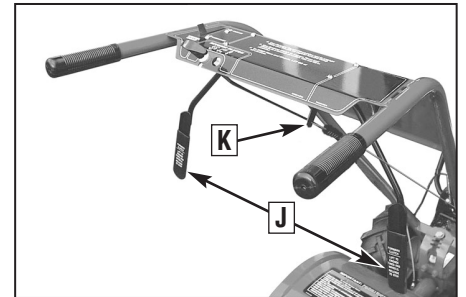

Figure 2-7: Forward Clutch Control levers (J). Forward clutch control linkage (K).
1. Remove any fasteners (rubber bands, tape, etc.) that may secure the Forward Clutch Control levers (J, Figure 2-7) to the handlebar.
2. The forward clutch control cable (with attached spring) is hanging loosely near the right-side wheel. Being careful not to kink or stretch the cable, insert the z-connector (L, Figure 2-8 – end of the spring) into the hole at the end of the forward clutch control linkage (K, Figure 2-7).